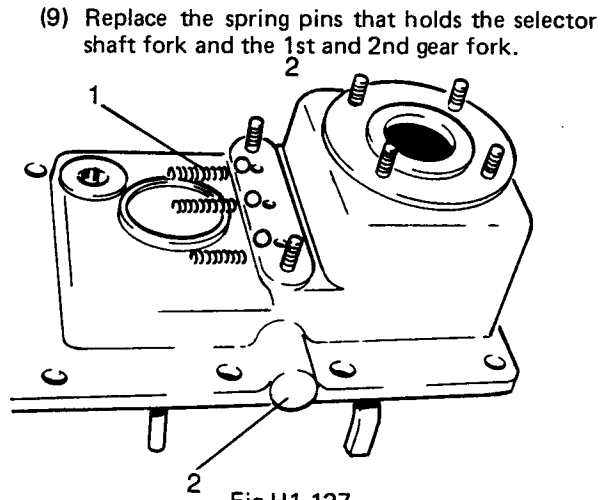

Fig H1.127
(9) Replace the spring pins that holds the selector shaft fork and the 1st and 2nd gear fork.
(10) Refer to Fig H1.127. Replace the plug (2) in the gallery where the rollers are housed.
(11) Refit the three springs and balls (1) that fix the position of the selector shafts.